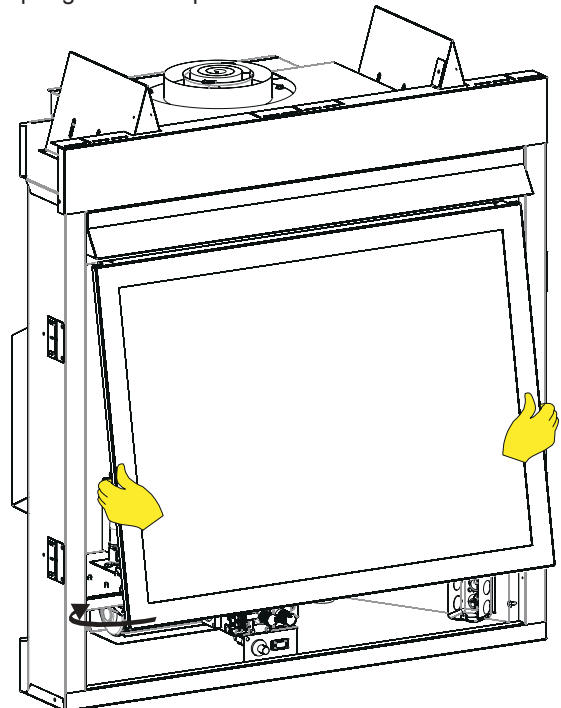

Figure 81
2. Gently lower the glass frame into place. See Figure 81 for proper glass frame placement.
- Check all latches or other door retention components for proper operation, tension, and relief mechanisms are free from obstructions. **See Figures 81 and 82.**